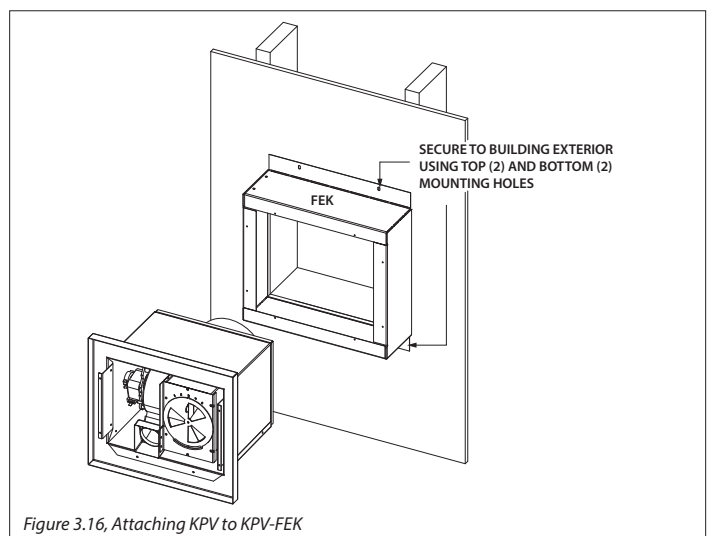

Figure 3.16, Attaching KPV to KPV-FEK
6. Reinstall the #KPV back assembly that was removed in Step 1 of Section 3.5. See Figure 3.16.